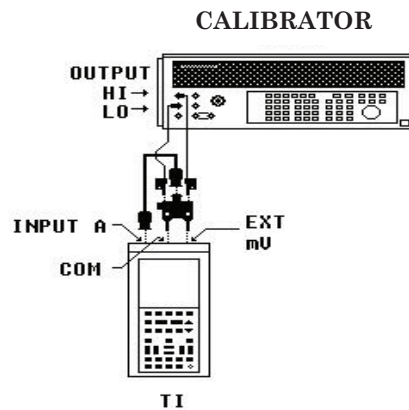

Figure 13. Current ramp.
- (59) Connect equipment as shown in figure 13 below: